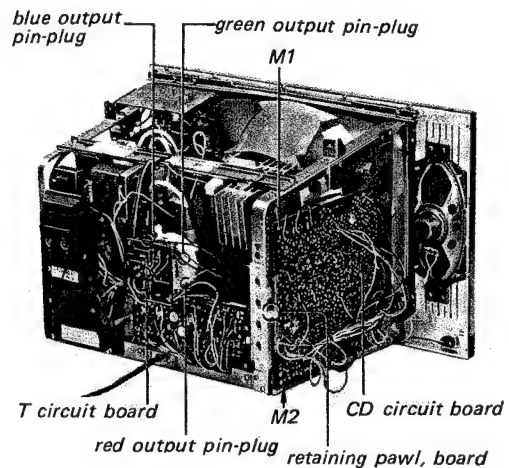

Fig. 2-18.
1. Remove the two screws labeled M1~2 in Fig. 2-18.
3. Pull off the three pin-plugs on the T circuit board that connect between the red, green and blue outputs of CD circuit board and the T circuit board as shown in Fig. 2-18.